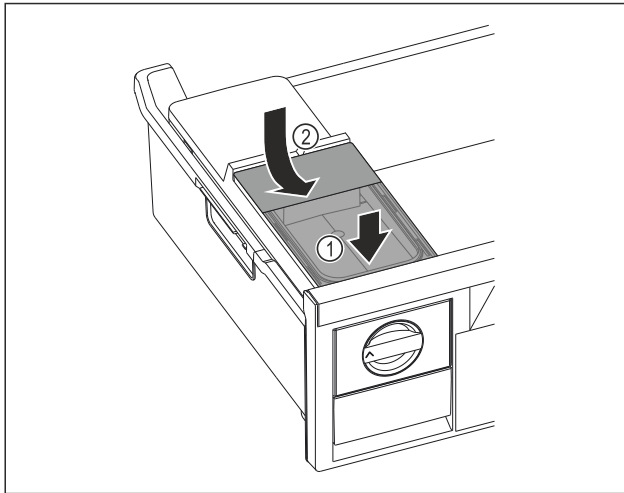

Fig. 129
- Position the water tank at the front. Fig. 129 (1)
- Lower the water tank at the rear. Fig. 129 (2)